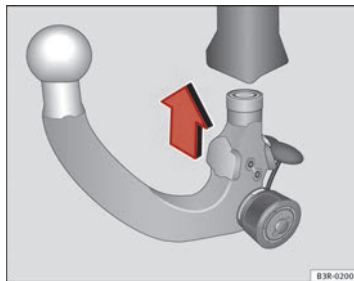

Fig. 171 Removable towing bracket: Inserting the ball joint
- With the spring mechanism in the ready position, insert the ball joint into the mounting fixture and push it upwards ⇒ Fig. 171 in the direction indicated (arrow) ⇒ **(A)**. It should lock into position automatically. You should now clearly hear it click into place.